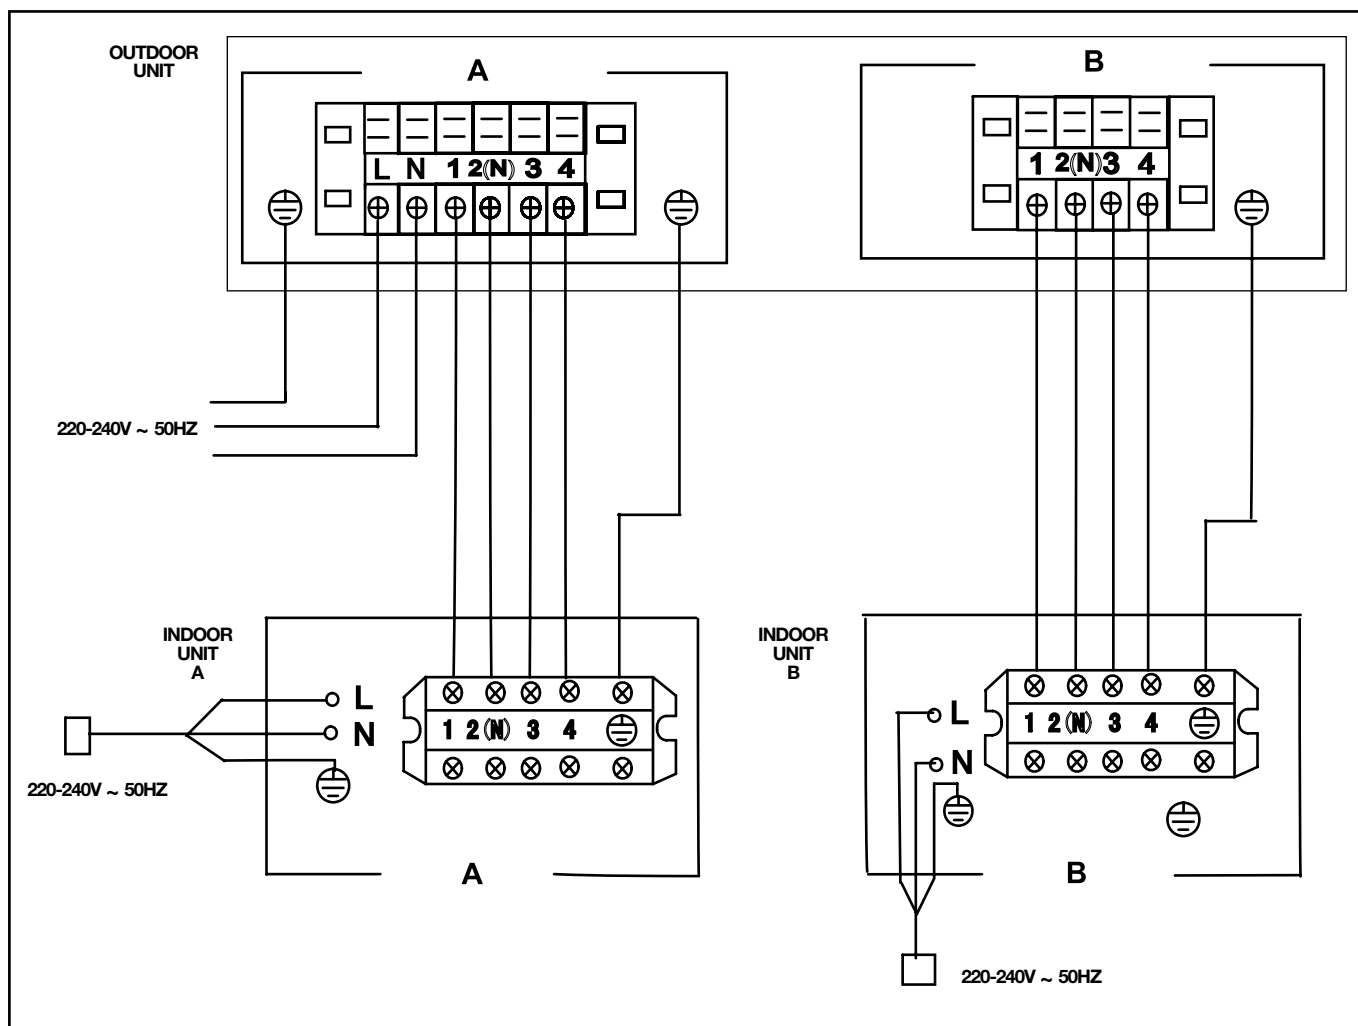

fig.17
3. Connect the cables as indicated on the terminals (fig. 17).
2. Connect the cables to the terminal board as indicated on the terminals and on the terminal board itself (fig. 17).